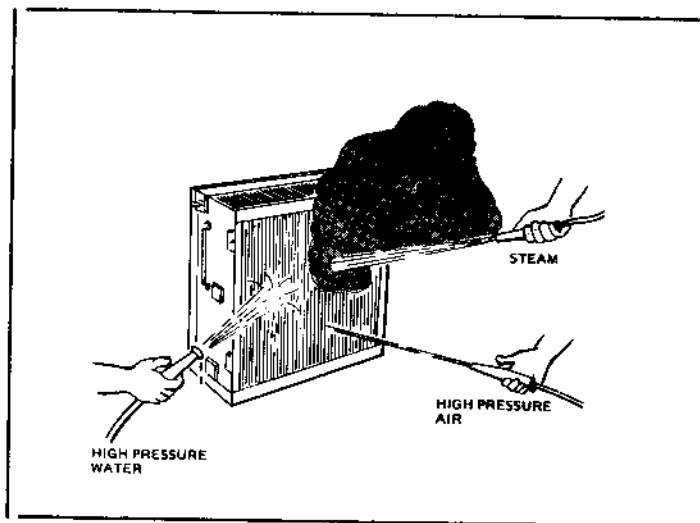

Figure 18. Using physical force to remove collected contaminants.
1. High pressure air or water should be adequate. However, care must be taken to avoid physically damaging the cells. If air or water are not adequate, an alkaline detergent solution may be used if allowed by the pressure equipment manufacture (See Figure 18).